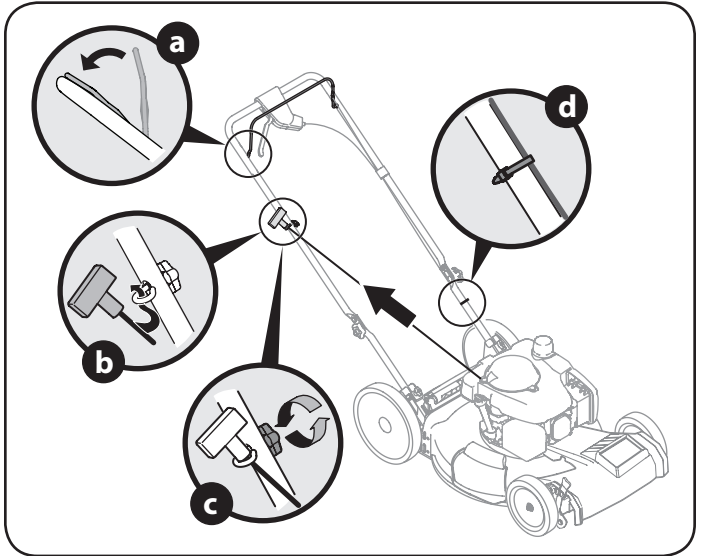

Figure 6
- b. Slowly pull starter rope handle from engine and slip starter rope into the rope guide. See Figure 6.
- d. Use cable ties provided to secure blade control and drive cables to lower handle as shown in Figure 6.
4. The rope guide is attached to the right side of the upper handle. Loosen the wing knob which secures the rope guide. Refer to Figure 6.